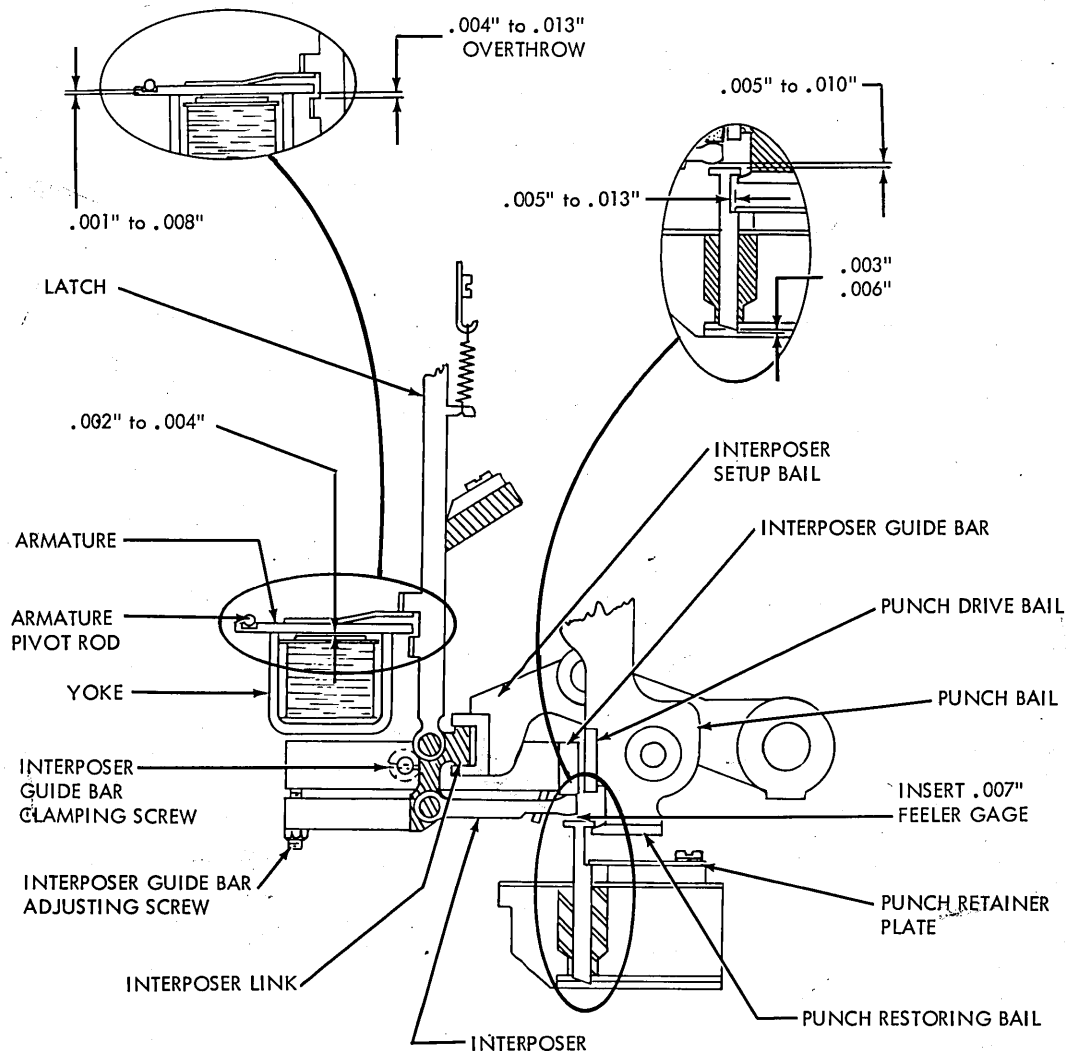

Figure 4-15. Punch Unit Adjustments
The interposer setup bail is a U-shaped channel. A projection on each of the 80 interposer links rides in the channel (Figure 4-15). As the interposer setup bail moves down, all the interposer links move down, carrying with them the 80 latches. This pulls each armature against its yoke. If punching is to take place, the magnet is energized at this time. Because the armature did not have to be attracted electrically, very low current is required to keep the armature sealed against its yoke. For this reason, the unit is sometimes referred to as a "no-work" punch unit.
#### Magnet Bar Assembly Adjustment (Figure 4-15)
3. Check for .004" to .013" clearance between the lower side of the armature and the latch at both the column 1 and column 80 ends of the unit (Figure 4-15).
- b. Loosen magnet unit adjusting lock nuts and adjust screws for .004" to .013" clearance between armature and latch (Figure 4-15). The magnet unit locating screws hold the magnet unit against the adjusting screws.
3. Carefully place drive unit on magnet unit so that all 80 interposer links fit into the interposer setup bail (Figure 4-15).
- a. Check for .004" to .013" latch overthrow (Figure 4-15).
- b. Check for .005" to .010" interposer to punch clearance (Figure 4-15).
- a. With the punch magnet de-energized, insert a .007" feeler gage between punch and interposer (Figure 4-15).
- a. Loosen interposer guide bar clamping screws slightly (Figure 4-15).
3. Remove latch spring in position to be removed (Figure 4-15).
3. Adjust retainer plate for .005" to .013" clearance between plate and punches (Figure 4-15).